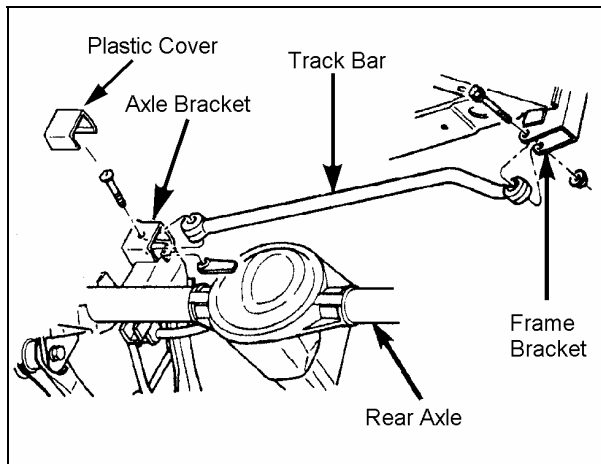

Figure 7
3. ☐ Disconnect the track bar from the frame bracket. See figure 7.
5. ☐ Separate the track bar from the axle bracket. Remove the track Bar. See Figure 7.